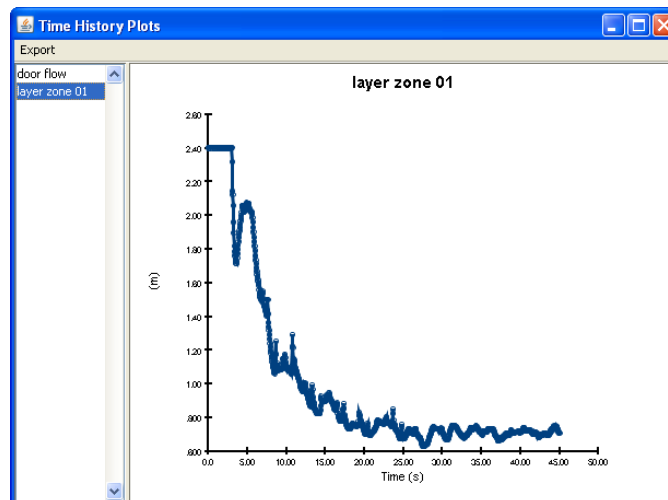

Figure 5.12. Time history plot of smoke layer height.
3. To select a data set from a different sensor, select that data in the left panel. To view smoke layer height data, click **layer zone 01->HEIGHT**, Figure 5.12.